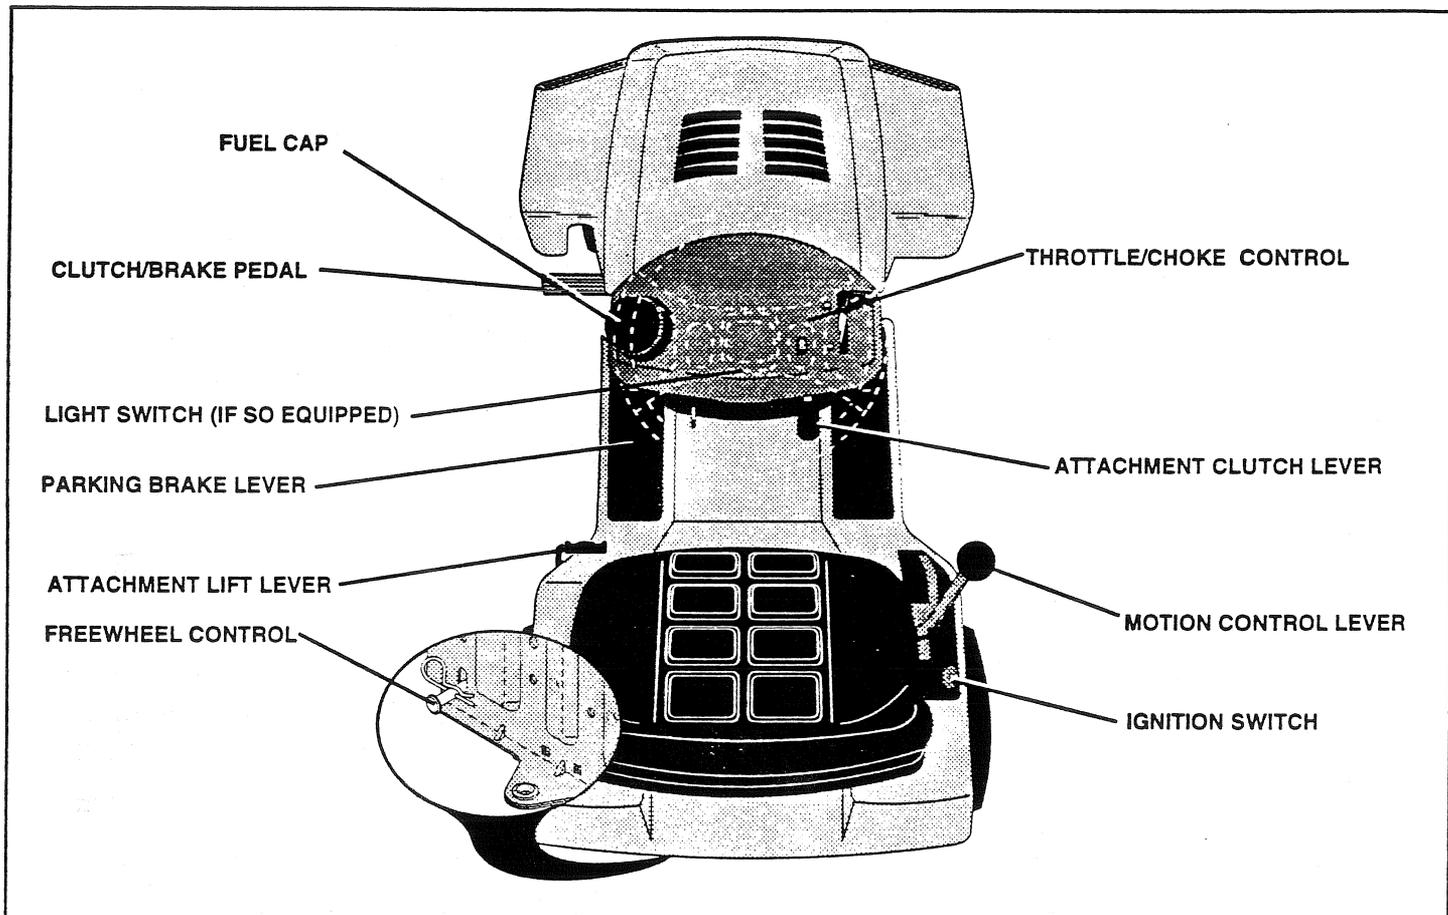

FIG. 7
TO ROLL TRACTOR OFF SKID (See Fig. 7)
- Slide seat until a comfortable position is reached which allows you to press clutch/brake pedal all the way down (See Fig. 7).
TO START ENGINE (See Fig. 7)